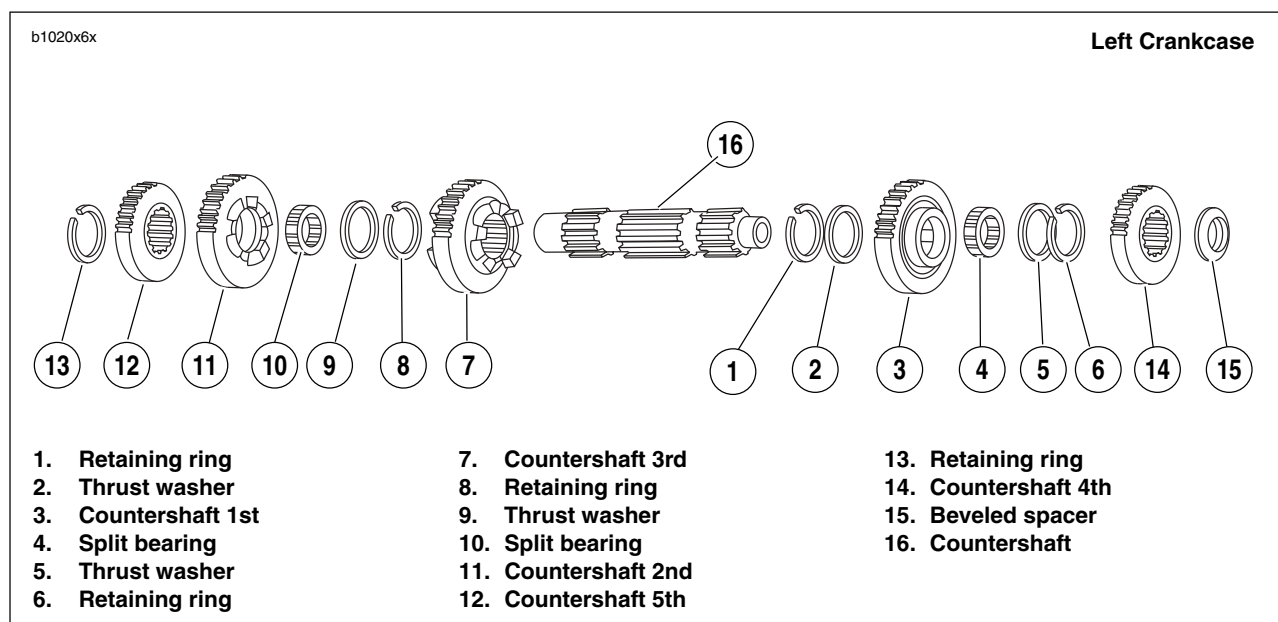

Figure 6-67. Transmission Countershaft Assembly/Reassembly
1. See Figure 6-67. Install **new** retaining ring (1) and thrust washer (2) onto countershaft in the second ring groove from the end with internal threads.
2. Install split bearing (4) onto countershaft.
3. Locate countershaft 1st gear (3), identified by one radial groove at one side, and slide gear onto shaft. Position gear over bearing (4).
4. Install thrust washer (5) and **new** retaining ring (6) next to countershaft 1st gear (3).
5. Install countershaft 3rd gear (7) on countershaft with fork groove facing away from countershaft 1st gear (3).
6. Install **new** retaining ring (8) on countershaft. Position **new** retaining ring in the second ring groove from the end. Install thrust washer (9) next to retaining ring (8). Install split bearing (10) in seat next to washer (9).